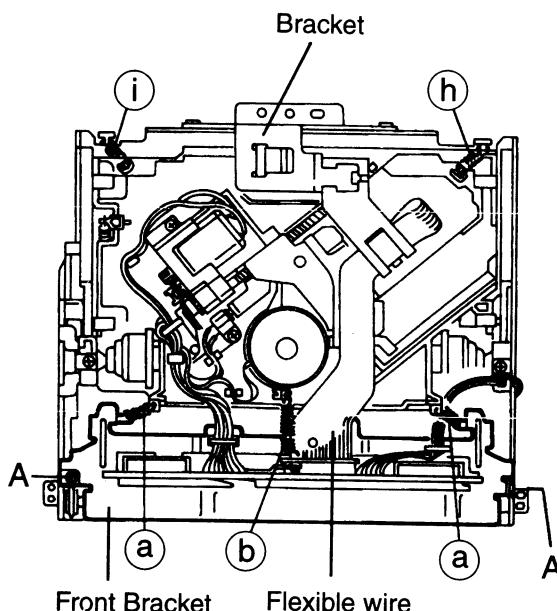
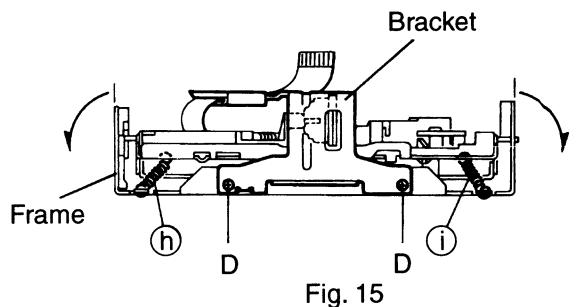
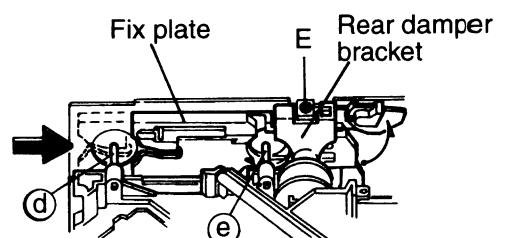
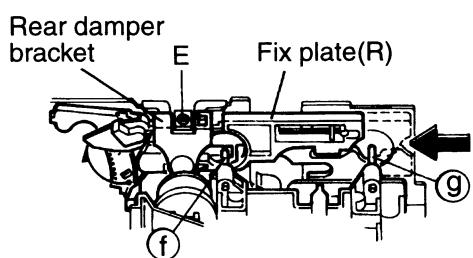

Fig. 9
Fig. 15
Fig. 16
Fig. 17
2. Remove the three springs **a** and **b** from behind the CD mechanism assembly (See Fig. 9).
3. Disc connect the flexible wire connected to the connector on the CD mechanism control P.C.board (See Fig. 9).
6. Remove the two screws **A** retaining the front bracket for fixing the CD mechanism control P.C. board (See Fig. 9).
1. Remove the two screws D retaining the bracket for fixing the damper (See Fig. 15)
2. When shining the fix places on the right and left Sides respectively to the arrow direction, lower the entire CD mechanism. When the shafts (d, e, f and g) on both the right and left sides have been set free as shown in Fig. 16 and Fig. 17, then the assembly can be removed easily. Remove the two screws E retaining the rear damper bracket to make it easier to remove the damper from the rear damper bracket (See Fig. 9, Fig. 16 and Fig. 17).
3. Remove the two springs (h) and (i) as shown in Fig. 9 and Fig 15.